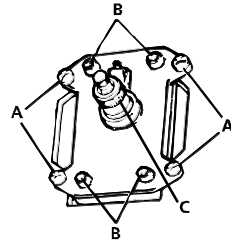

Fig. 15
- Fit the cover. Make sure the tabs snap properly into the lugs (B fig. 15).
- Grease the shaft splines(C fig. 15) sparingly and install the lever.